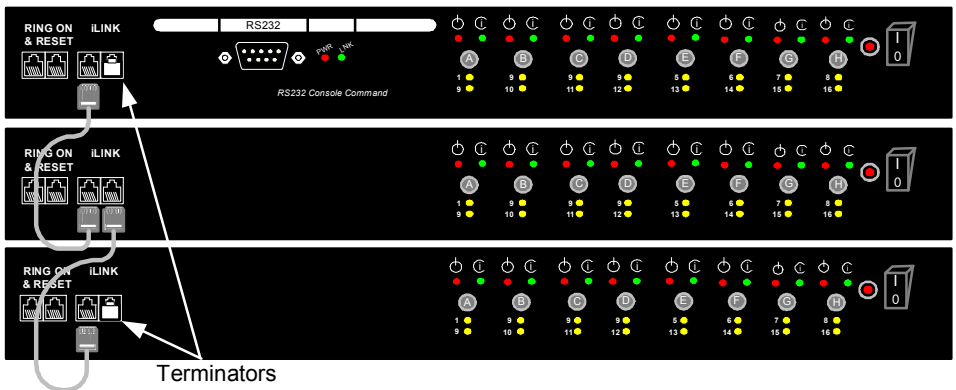

Figure 14 Adding more Slaves
1. Plug a Terminator into the Manager iLINK port and the iLINK port of last Slave to be cascaded. See Figure 14.
2. Connect an iLINK cable to the iLINK ports of the SRPS Manager and a Slave unit. See Figure 14.